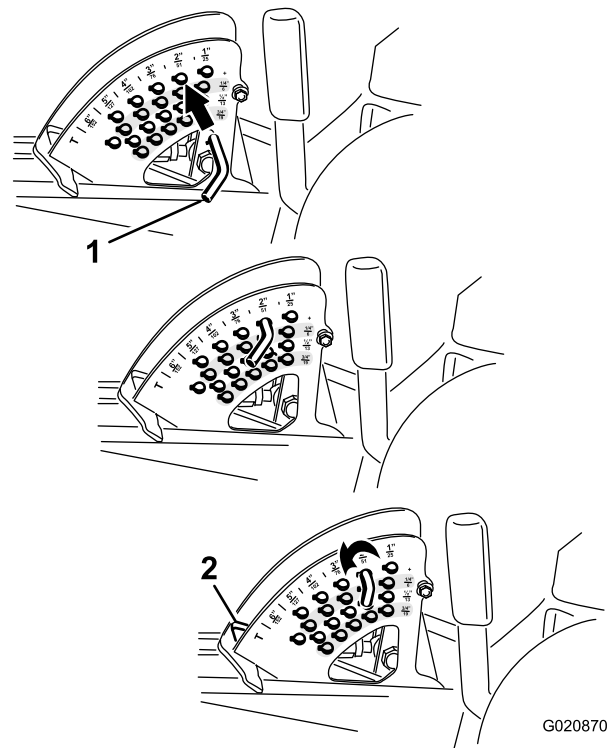

Figure 24
2. Rotate the stop pin until the roll pin in it lines up with the slots in the holes in the height-of-cut bracket and remove it (Figure 24).
3. Select a hole in the height-of-cut bracket corresponding to the height of cut desired, insert the pin, and rotate it down to lock it in place (Figure 24).
Note: There are 4 rows of hole positions (Figure 24). The top row gives you the height of cut listed above the pin. The second row down gives you the height listed plus 6 mm (1/4 inch). The third row down gives you the height listed plus 12 mm (1/2 inch). The bottom row gives you the height listed plus 18 mm (3/4 inch). For the 15.8 cm (6 inch) position, there is only 1 hole,